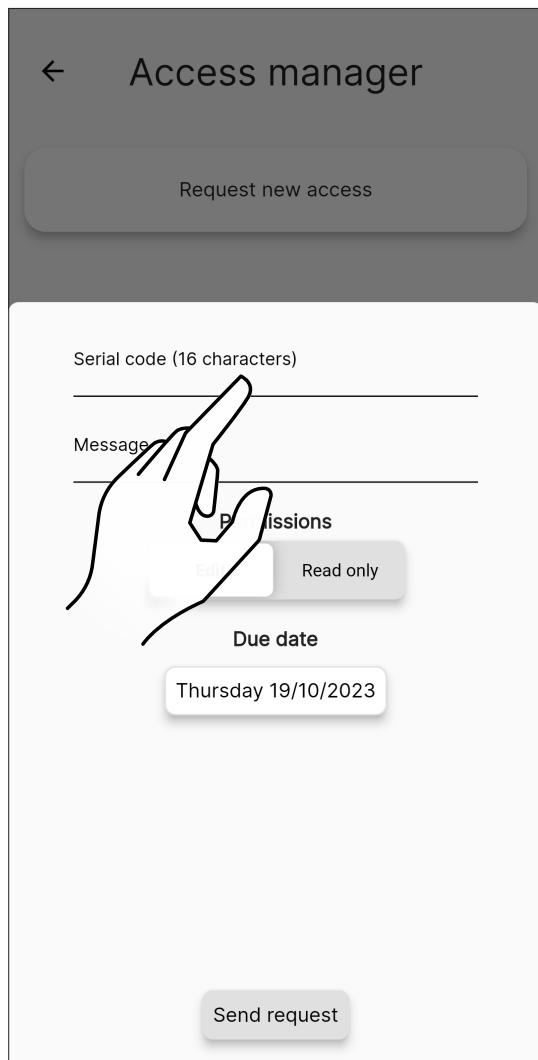

Fig. 29
- a dialog box will open (Fig. 29)